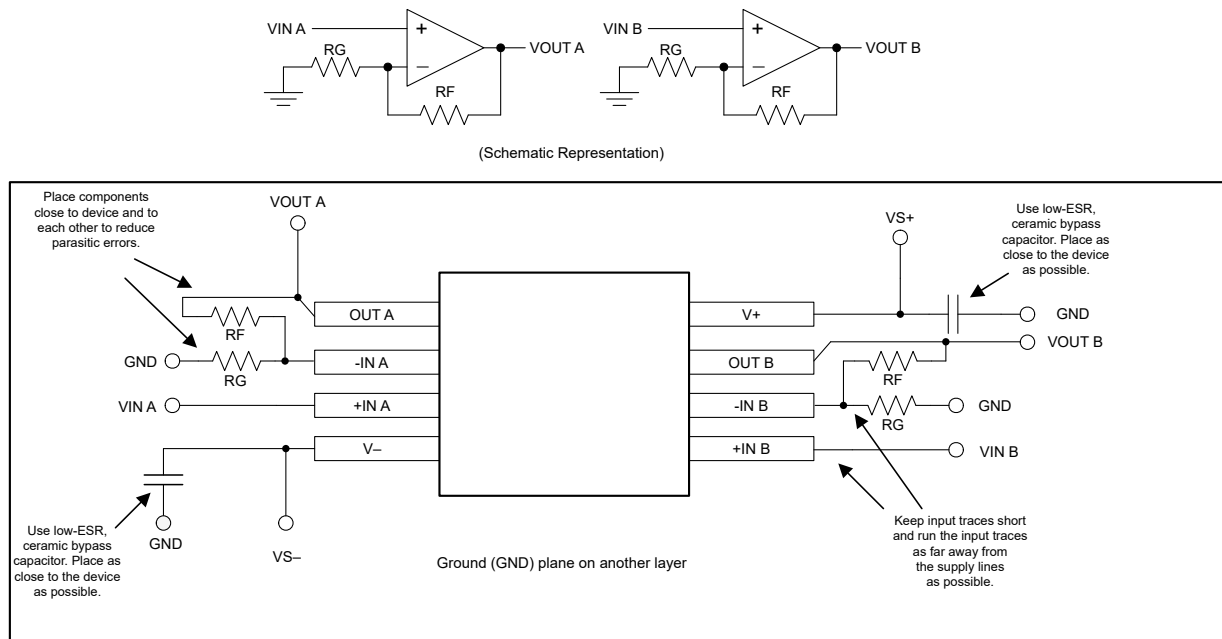

Figure 8-8. Layout Recommendation for TLV2365-Q1 SOIC Package
- Place the external components as close to the device as possible. Figure 8-8 shows that keeping R_F and R_G close to the inverting input minimizes parasitic capacitance.